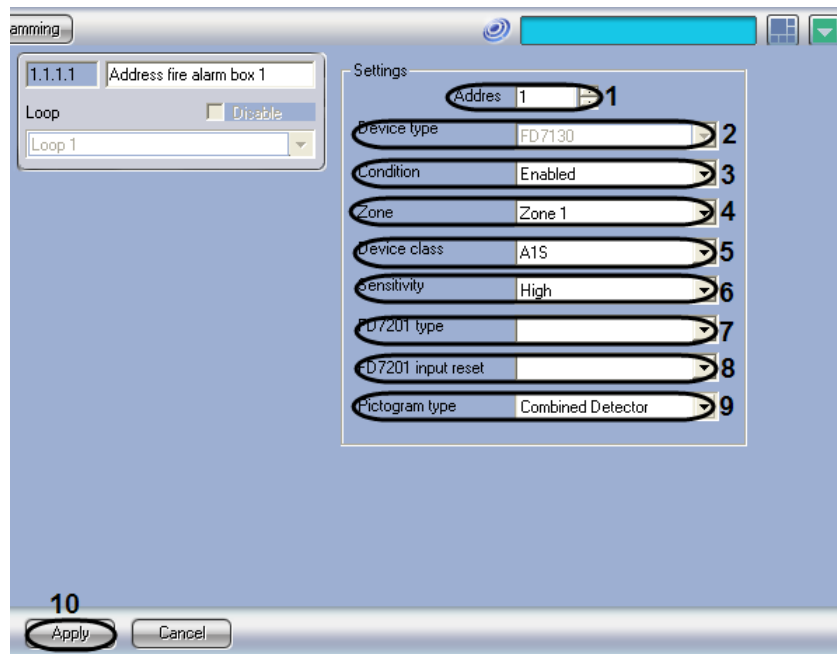

Fig. 3.5—2 Configuring the addressable detector
2. Enter the CAN network address of the detector into the “Address” field (see Fig. 3.5—2, 1).
3. The “Device type” field automatically displays the type of the fire alarm box (see Fig. 3.5—2, 2).
4. Select Enabled/Disabled in the “Condition” field (see Fig. 3.5—2, 3).